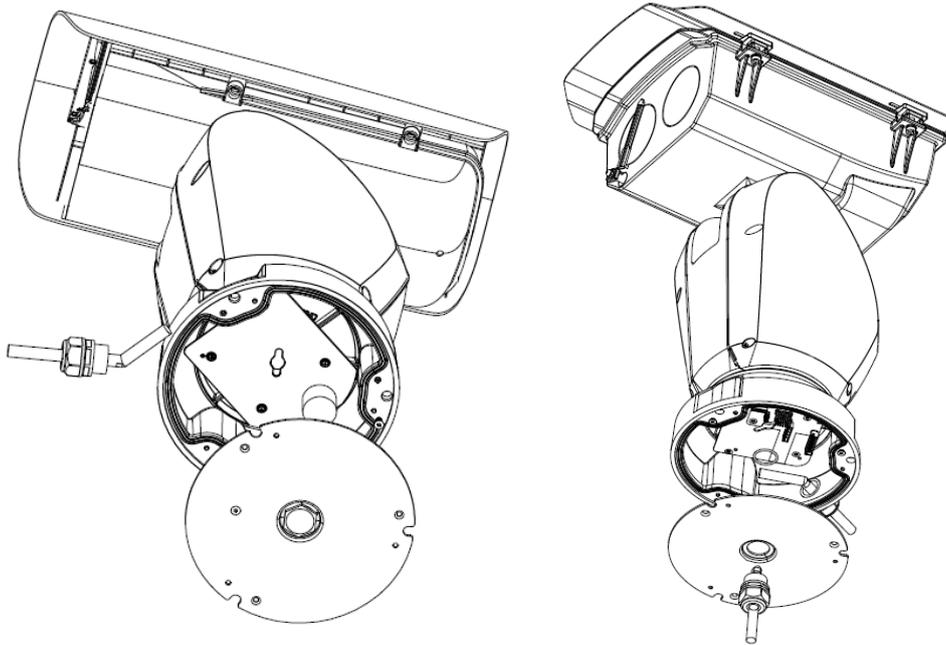

Figure 1-9
2. Pull out the white plug of combination cable, and loosen the connectors of combination cable and bottom cover respectively, then make the switch of cable exit from side to bottom. See Figure 1-9 for more details.